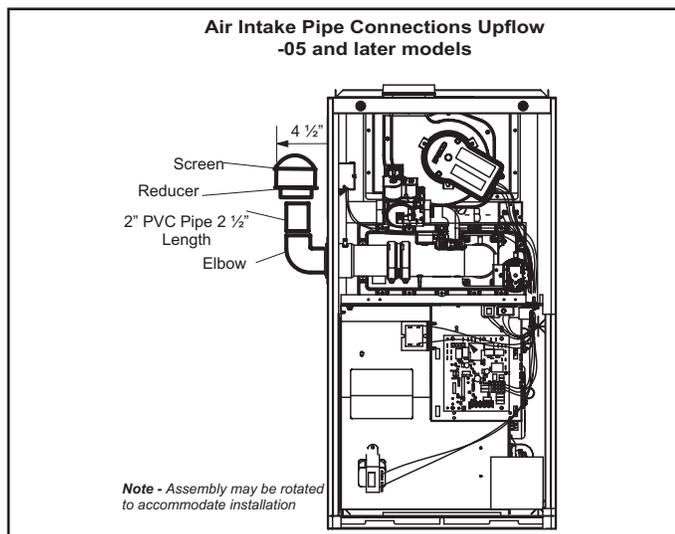

FIGURE 29
- 2 - **-05 models and later** - remove the air intake assembly from outside the cabinet. The assembly is not secured with screws or glue and will remove with ease. See Figure 29.